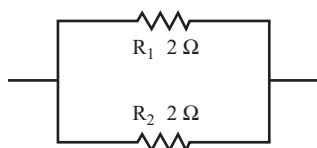

FIGURE 1.4
**10** You can connect resistors in parallel, as shown in Figure 1.4.